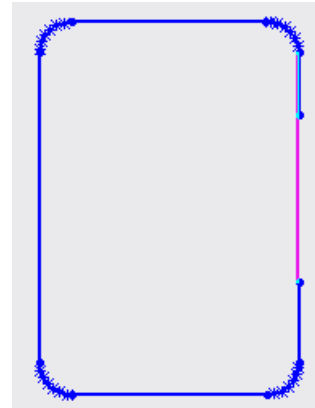

Figure 3
10.  Use the SolidWorks Extend command to connect the open entities (Figure 3).